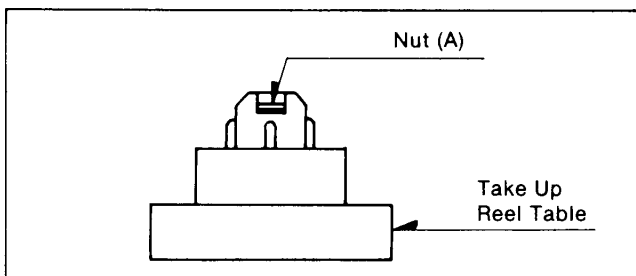

Figure M32
5. If the difference of Supply Reel table is more than 0.15mm higher or lower, replace the Supply Reel table. When the difference of Take Up Reel table is more than 0.15mm higher or lower, adjust nut (A)(Figure M32) so that measurement becomes the spec. If you can not adjust to the spec., replace Take Up Reel table.